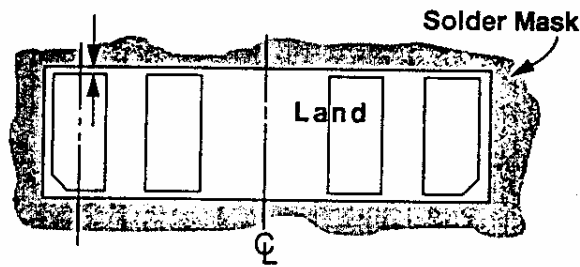

**Fig 3.6.5 BGA Spacing**
**3.2.16 Power and Ground Carrying Conductors and Vias** – The via should be placed at the minimum distance as outlined in Figure 3.6.5. No thermal relief is required for the via. Only one power pin (VCC or ground) is allowed to be connected to the single via). The via can be shared by the bypass capacitor placed next to the power pin. The maximum width conductor should be used for power connection. The preferred vias for power and ground should follow preferred hole and pads listed in Table 2.4.
**3.6.5 BGA component spacing requirements – Fig 3.6.5 shows the appropriate clearances between component body and adjacent component. No components are allowed within .200 in around perimeter of BGA device. This area is reserved for rework equipment nozzle space requirements.**